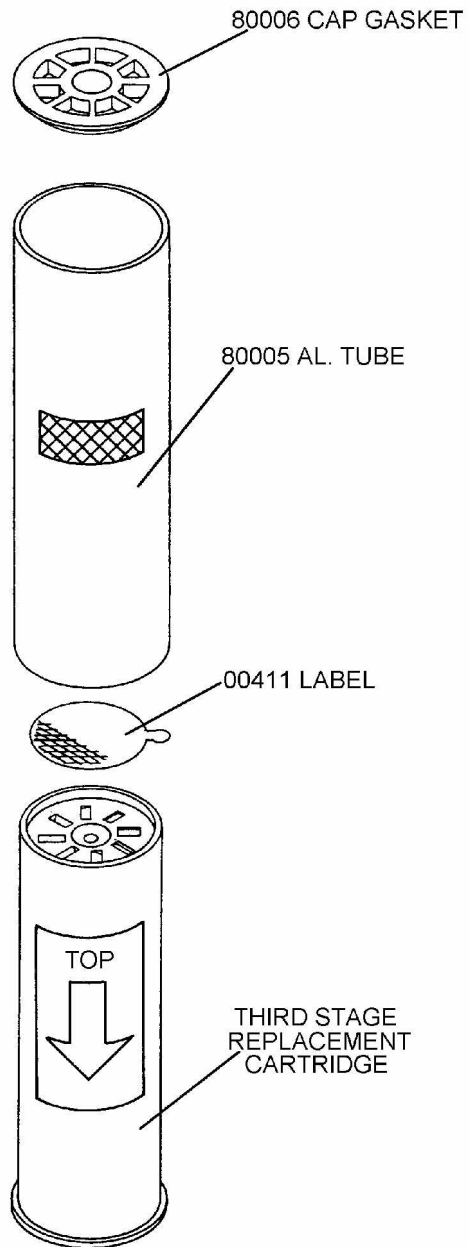

FIGURE NO. 2
- G. Refill the third stage assembly by sliding the new third stage cartridge into the tube from the bottom (see Figure No. 2).